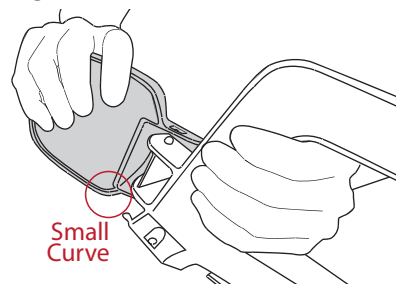

Figure 19
- To install the side mirrors, snap them on the side of the windshield with the small curve down and the mirrors facing the back. See Figure 19.